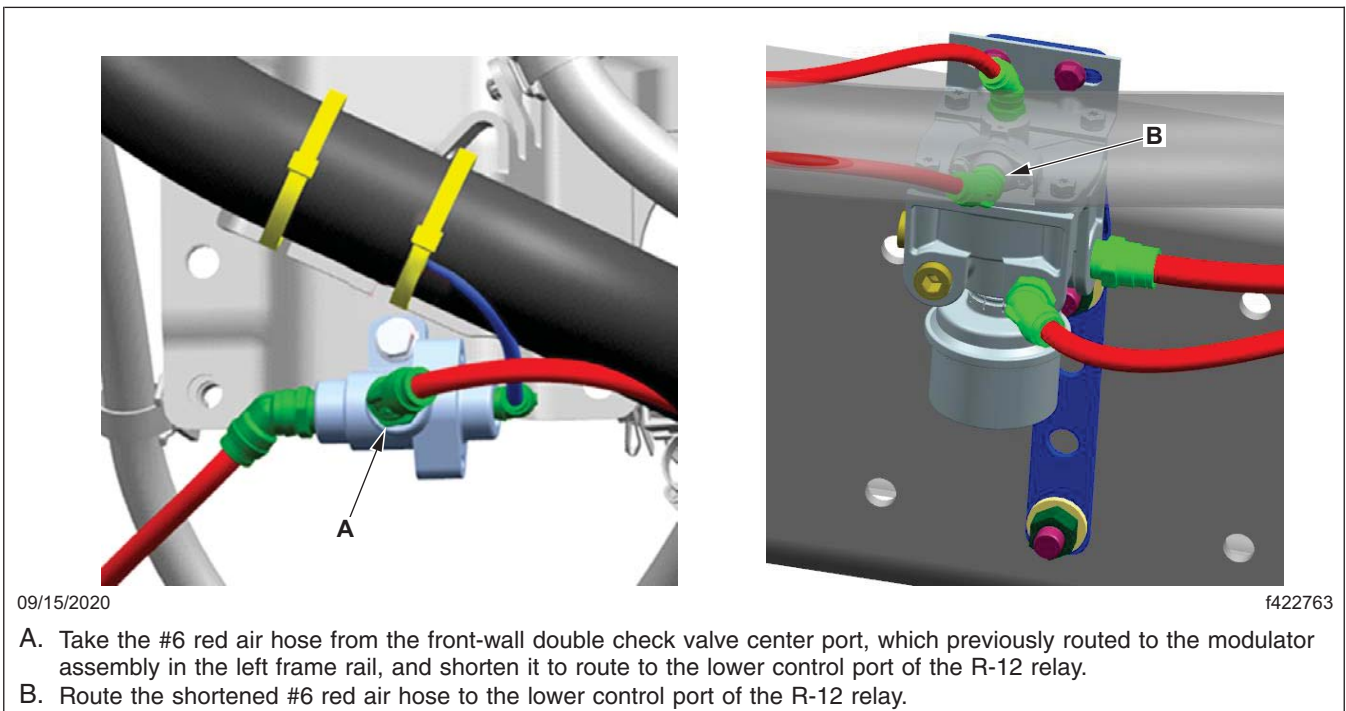

Fig. 28, Shortening the #6 Red Air Hose
12. Take the #6 red air hose from the front-wall double check valve center port, which previously routed to the modulator assembly in the left frame rail, and shorten it to route to the lower control port of the R-12 relay. See Fig. 28.